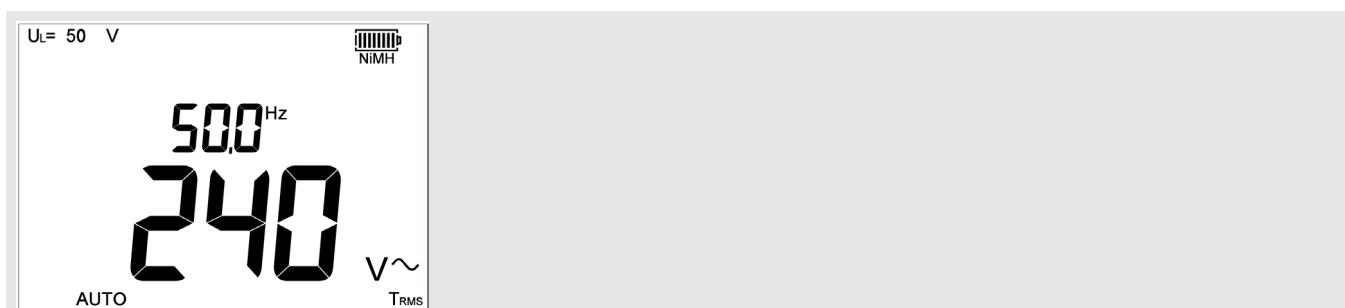

Figure 9: Instrument displaying that the circuit is live.
5. Ensure the MFT shows the circuit is live as in Figure 9 below: